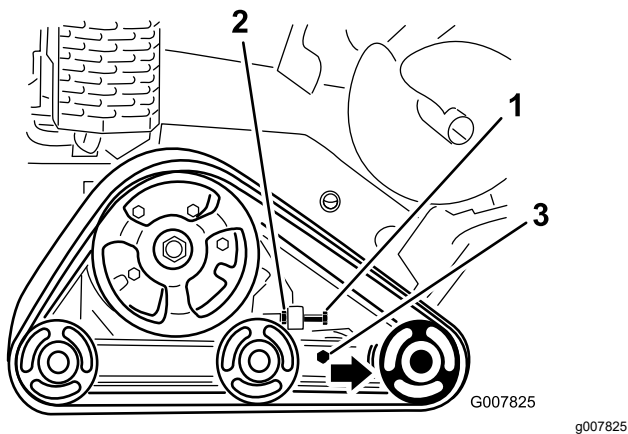

Figure 56
3. Loosen the jam nut on the track tensioning bolt and the clamp bolts on the tension arm (Figure 56).
4. Torque the tensioning bolt to 32.5 to 40 N·m (24 to 30 ft·lb) to tighten the track (Figure 56).
4. Back out the tensioning bolt and jam nut (Figure 56).
5. Loosen the clamp bolts (Figure 56).